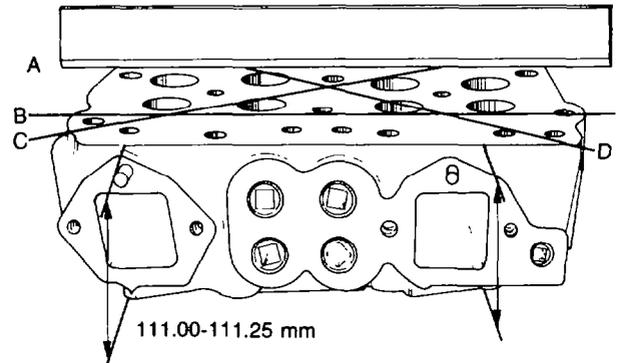

Figure 3 — Checking Cylinder Head Distortion
- d. Check the cylinder head for distortion using a straight edge and feeler gauge (see Fig. 3), then measure the thickness of the cylinder head for parallel in several locations using a micrometer. If the distortion or out of parallel exceeds 0.076 mm (0.003 in.) the cylinder head will require machining. The standard cylinder head thickness is 111.00-111.25 mm (4.37-4.38 in.), the head may be machined to a minimum thickness of 110.24 mm (4.34 in.) if necessary. Discard any cylinder head that cannot be machined within specification.